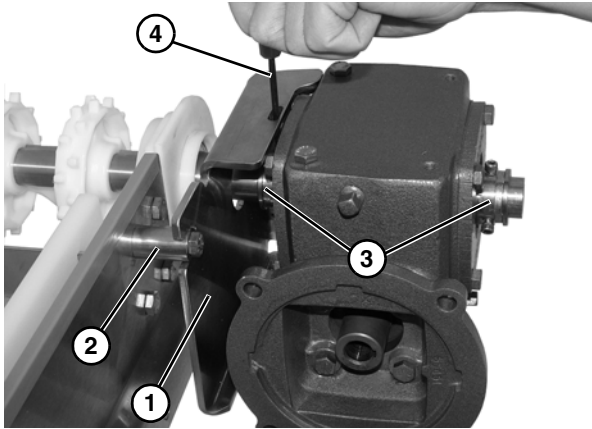

Figure 6
4. Slide gear reducer guard (Figure 6, item 1) onto spacer (Figure 6, item 2) on conveyor, and tighten set screws on both bearings (Figure 6, item 3) with a hex key wrench (Figure 6, item 4).